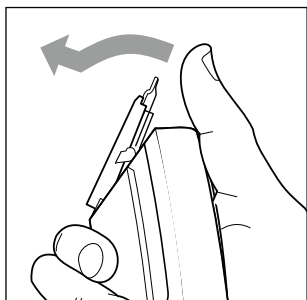
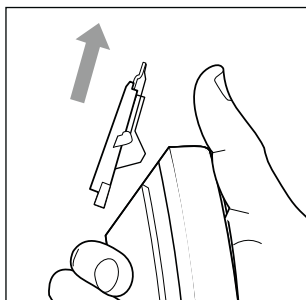

Fig. 8
Fig. 9
- 1) First press the shaving head **1** forwards off the appliance with your thumb (see fig. 8). Then pull the shaving head **1** upwards out of the appliance (see fig. 9).